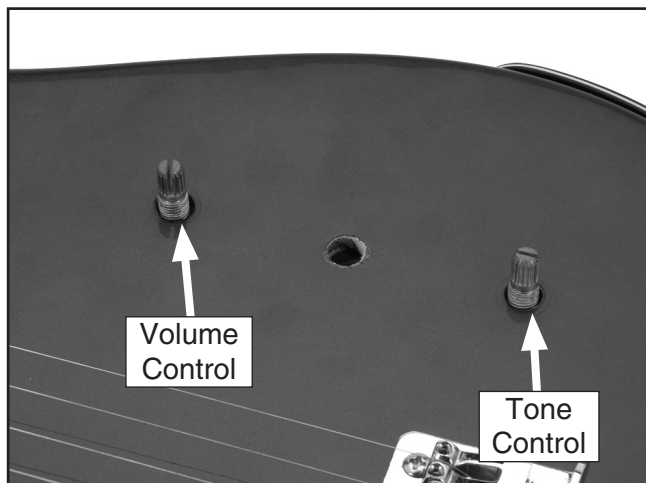

Figure 16. Installing tone and volume controls.
2. Insert the volume and tone controls through flat washers and then into the sockets on the guitar body as shown in **Figure 16**.